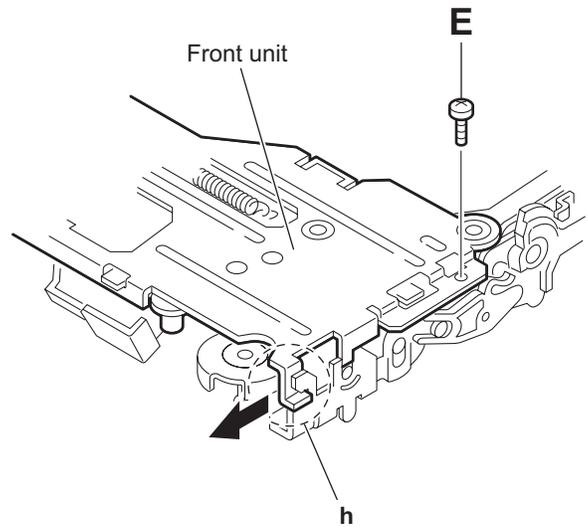

Fig.11
- Remove the screw **E** attaching the front unit on the top of the body. (See Figs.11 and 12.)
- Move the front unit toward the front to release joint **h**, and release two joints **i** and **j** on the right side of the chassis base assembly. Then remove the front unit upward. (See Figs.11 and 12.)
(See Figs.11 to 3)